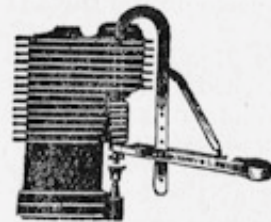

FIG. 19. TERRY VALVE
**Removing the Valves.** Valves of the side-by-side type can be removed, if desired, without disturbing the cylinder. Take off the valve chest cover and the valve caps in the case of a 35-6/5 engine, or remove the cylinder head in the case of other engines and place the hooked end of a proprietary valve spring compressor such as the Terry illustrated in Fig. 19 on the top of the valve and the forked end over the lower valve spring cap. Then exert sufficient leverage to lift the valve spring to allow the split collet to be withdrawn. The valve can then be pushed up and drawn out of the head. Remove the other valve